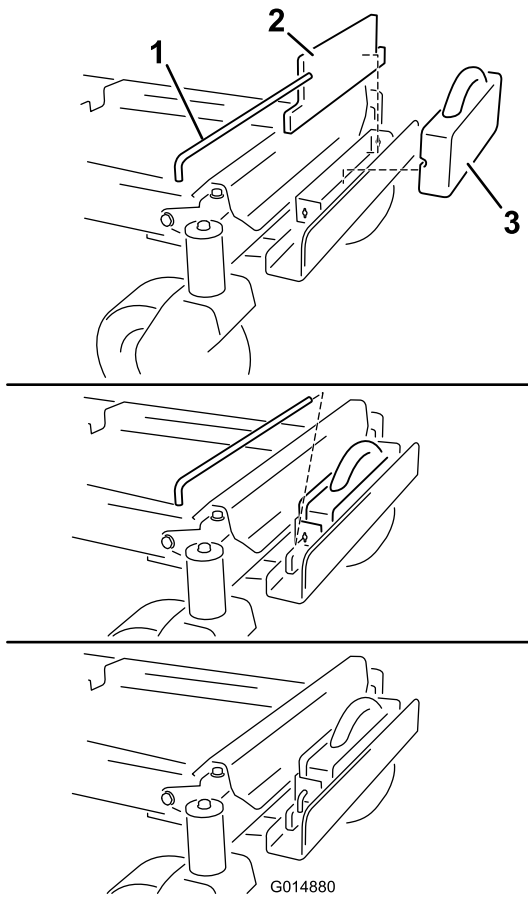

Figure 9
- Install a flat weight to the holding bracket and move it rearward, flush with the bracket (Figure 9).
- Install a suitcase weight in front of the flat weight (Figure 9). The groove in the suitcase weight should be facing rearward.
- Secure the weights to the bracket with a keyed cross bar (Figure 9). Install the bar and rotate it 90 degrees downward to lock it in place.